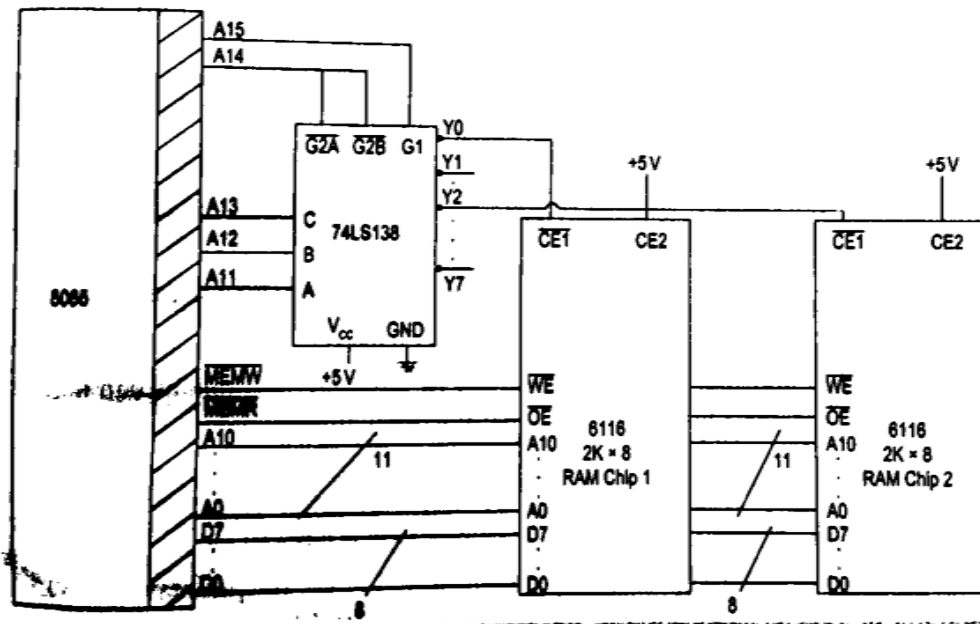

Fig. 19 Interfacing two 6116 RAM chips using 74LS138 decoder
- Fig. 19 shows the interfacing.